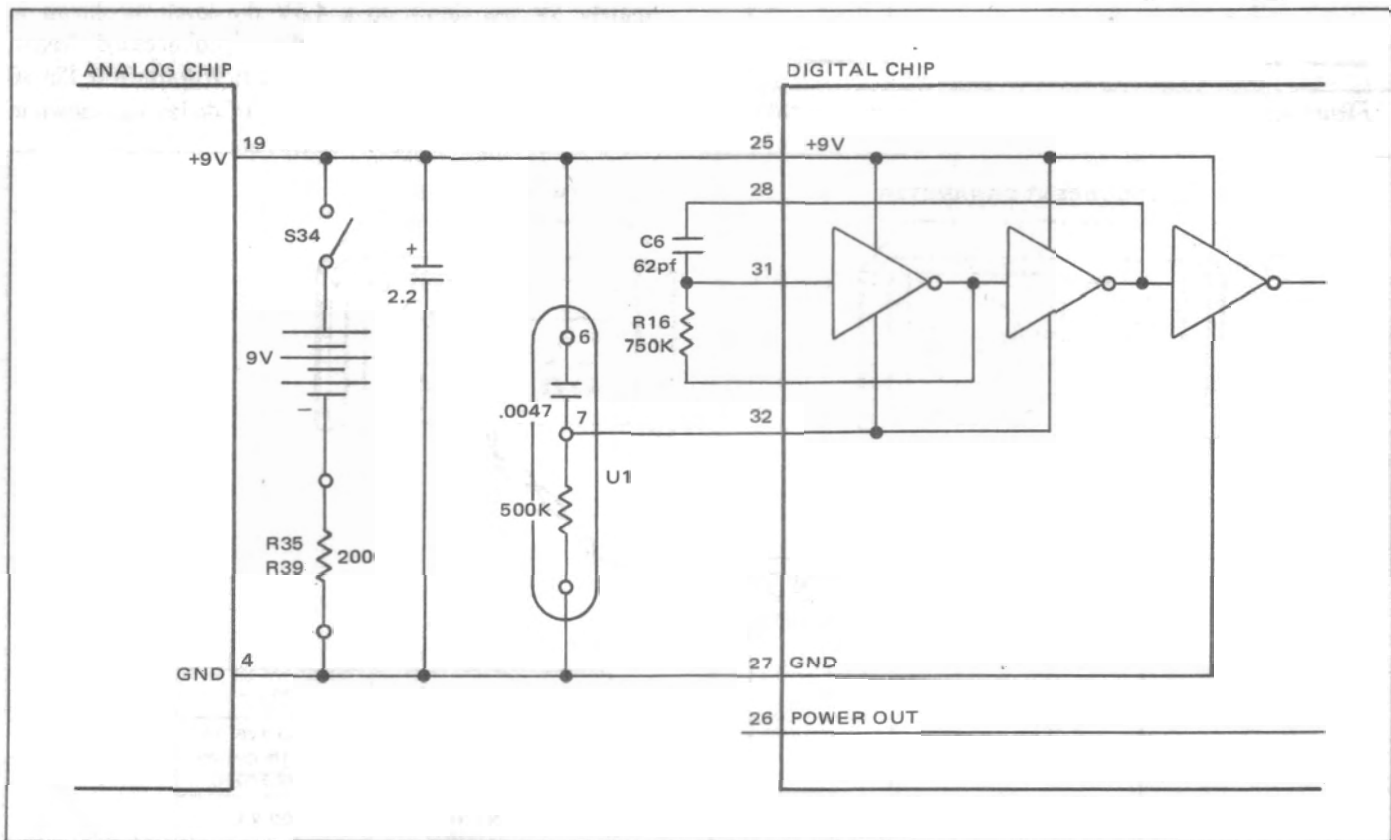

Figure 4.3 - Digital Clock Circuit
4.2.1 The second consideration is that the clock circuit on the digital chip is operating within its design parameters. See Figure 4.3.